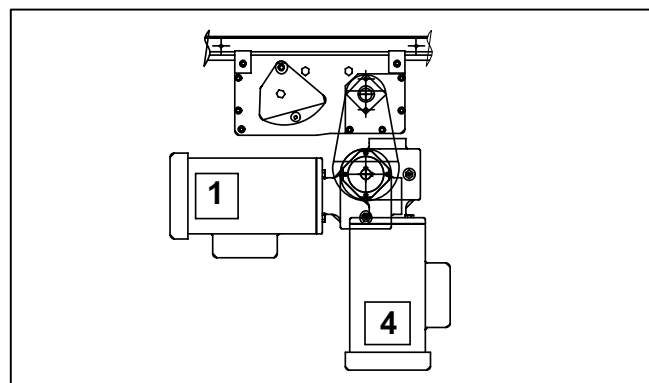

Figure 4
**NOTE:** For Type 1 mounting package, the gearmotor may be operated in positions 1 or 4 (Figure 4).